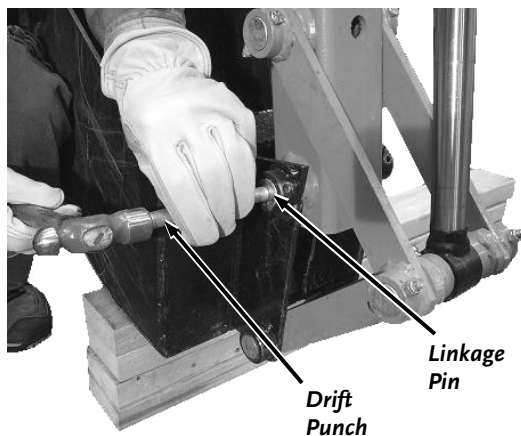

Figure 38
3. Use a Drift Punch to remove the two Linkage Pins from the Bucket (**Figure 38**).